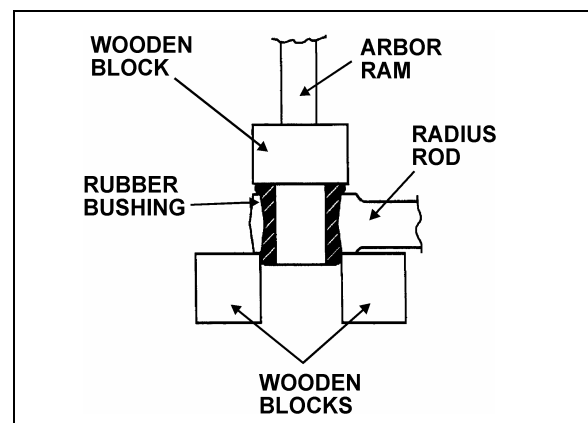

FIGURE 44: RADIUS ROD BUSHING INSTALLATION
2. Safely support the radius rod, and place new bushing on top of the radius rod end (Fig. 44).